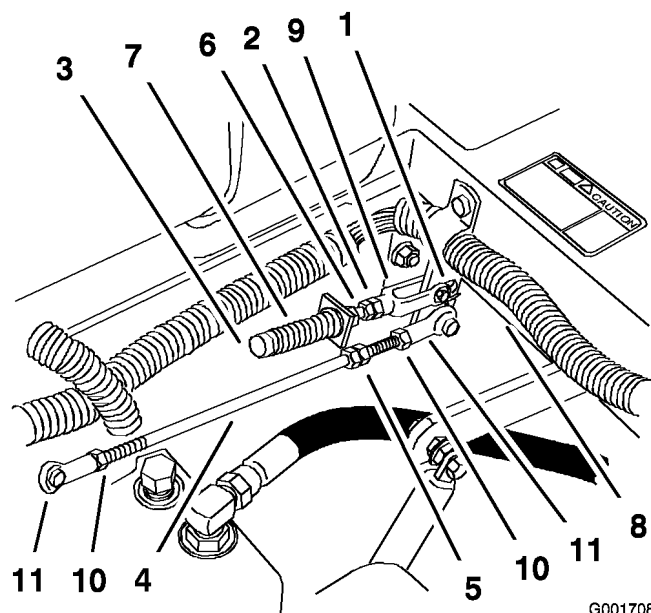

Figure 54
8. If adjustment is needed, loosen the nut and jam nut against the yoke (Figure 54).
9. Apply slight rearward pressure on the motion control lever, turn the head of the adjustment bolt in the appropriate direction until the control lever is centered in the neutral lock position (Figure 54).
10. Tighten the nut and jam nut (Figure 54).